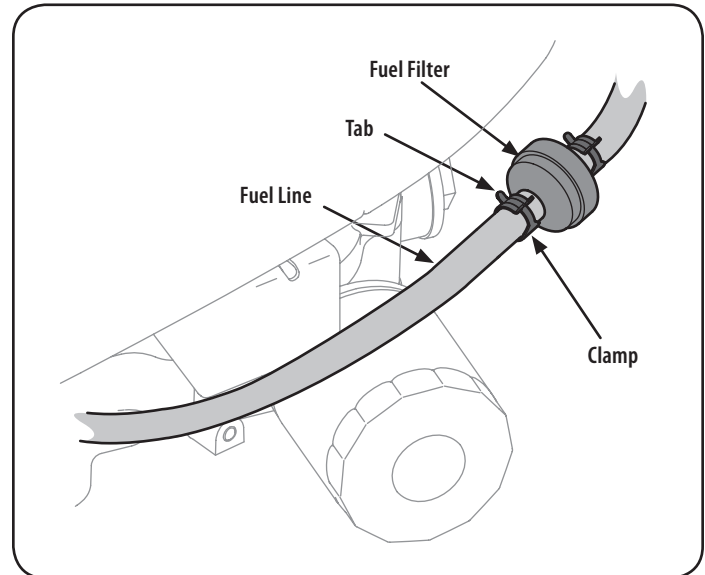

Figure 14
1. Use pliers to squeeze the tabs on the other clamp (the out-line side of the fuel filter), and slide the clamp away from the fuel filter. Twist and pull the fuel line off of the fuel filter. See "Figure 14".